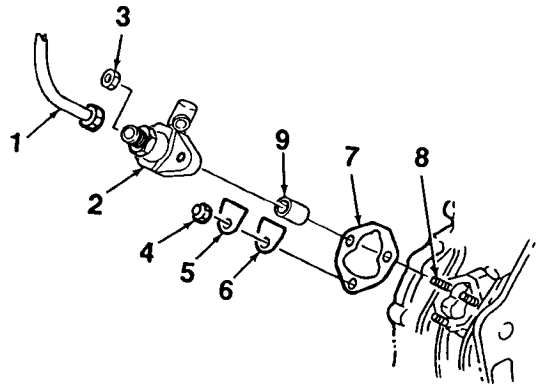

Figure 4-11. Fuel Injection Pump Removal
Shims, Timing (Item 7, Figure 4-11), as required
1. Disconnect fuel pipe (1, Figure 4-11) from fuel injection pump (2).
2. Remove nut (4), inspection cover (5), and gasket (6) from lower pump stud (8).
3. Remove fuel injection pump (2) from pump studs (8) by removing two nuts (3). Remove shim(s) (7). Note number of shims utilized.
4. Remove fuel tappet (9) from engine crankcase.